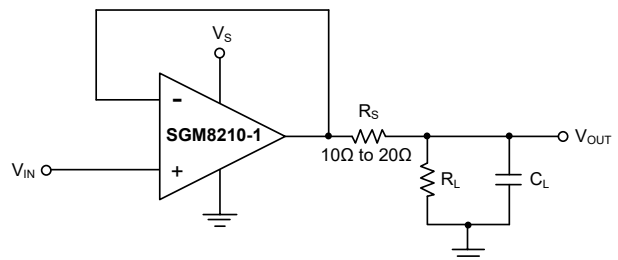

Figure 2. Series Resistor in Unity-Gain Buffer Configuration Improves Capacitive Load Drive
Followed configurations with load capacitance in excess of 30pF can produce extra overshoot and ringing in the output signal. Increasing the gain enhances the ability of the amplifier to drive greater capacitive loads. In unity-gain configurations, capacitive load drive can be improved by inserting a small (10Ω to 20Ω) resistor, R_S , in series with the output, as shown in Figure 2. This resistor significantly reduces ringing while maintaining direct current (DC) performance for purely capacitive loads. However, if there is a resistive load in parallel with the capacitive load, a voltage divider is created, introducing a DC error at the output and slightly reducing the output swing. The error introduced is proportional to the ratio R_S/R_L , and is generally negligible.